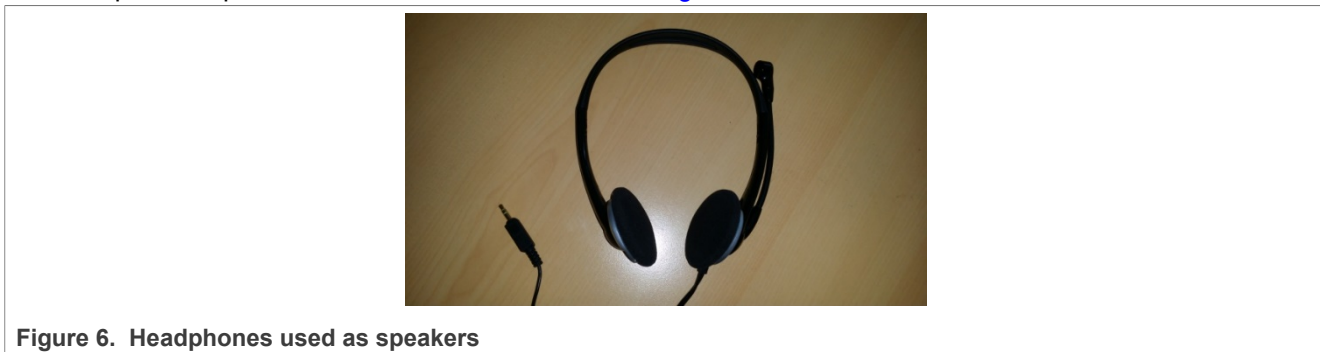

Figure 6. Headphones used as speakers
3. Headphones/speakers with male Jack as shown in Figure 6